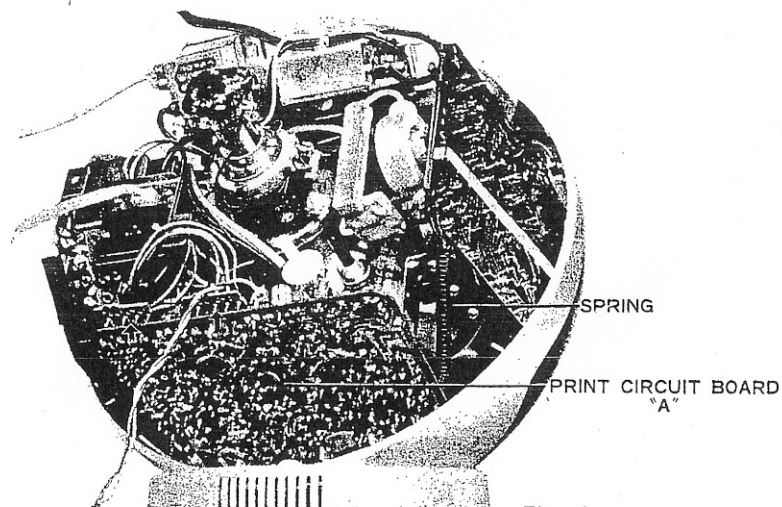

Fig. 6
2. In case of Printed Circuit Board A (Fig. 6). Disconnect a spring and two arrow head Terminal Boards indicated in Fig. 6. and pull off Printed Circuit Board.